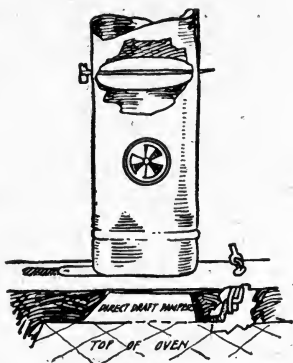

FIG. 2. Drafts and dampers in stove-pipe.
4) A damper in the stove pipe (Fig. 2) for letting air from the room into the pipe serves to check the burning of the fire by taking the place of the draft thru the stove.